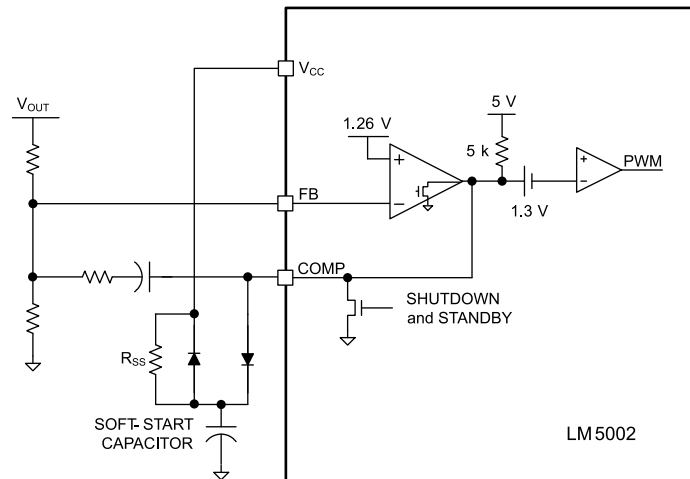

图 8-4. Soft-Start Circuit
Internal thermal shutdown circuitry is provided to protect the IC in the event the maximum junction temperature is exceeded. When the 165°C junction temperature threshold is reached, the regulator is forced into a low power standby state, disabling all functions except the VCC regulator. Thermal hysteresis allows the IC to cool down before it is re-enabled. Note that because the VCC regulator remains functional during this period, the soft-start circuit shown in Figure 8-4 must be augmented if soft start from thermal shutdown state is required.
Soft start (SS) can be implemented with an external capacitor connected to COMP through a diode as shown in 图 8-4. The COMP discharge MOSFET conducts during Shutdown and Standby modes to keep the COMP voltage below the PWM offset (1.3 V), which inhibits PWM pulses. The error amplifier attempts to raise the COMP voltage after the EN pin exceeds the 1.26 V standby threshold. Because the error amplifier output can only sink current, the internal COMP pullup resistor (approximately 5 k Ω) supplies the charging current to the SS capacitor. The SS capacitor causes the COMP voltage to gradually increase until the output voltage achieves regulation and FB assumes control of the COMP and the PWM duty cycle. The SS capacitor continues charging through a large resistance, R_{SS} , preventing the SS circuit from interfering with the normal error amplifier function. During shutdown, the VCC diode discharges the SS capacitor.